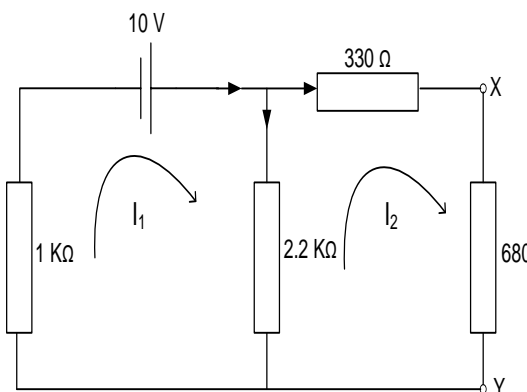

Figure 7
1. Connect the circuit as shown in Figure 7.